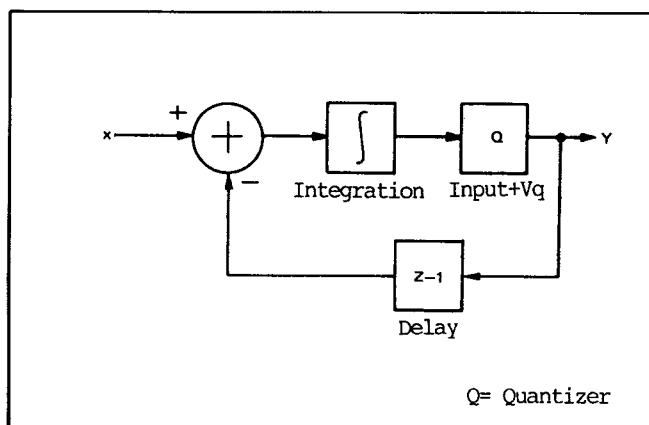

Figure 5-12 Single Integration Noise Shaper
The single integration noise shaper uses only a single integrator for noise shaping as shows in figure 5-12. The block marked "Q" in this figure is a local quantizer which adds quantization error to the input data. The relationship between output (Y) and input (X) for this type of noise shaper is: